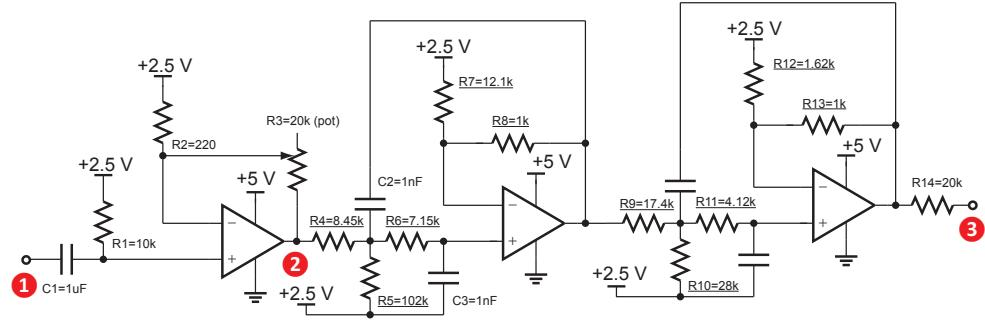

Figure 14: Schematic of the active low-pass filter. Underlined resistors values are 1% tolerance.
Fig. 14 shows the schematic of the active LPF circuit. The filter has a cut-off frequency of **15 kHz** and was designed with the TI WEBENCH filter design tool.
1. Identify the gain stage (between point 1 and point 2 Fig. 14). What is the expression of its gain? Notice that the +2.5 V supply does not affect this result, rather it simply sets the bias of the overall amplifier for maximum output swing because a single 5 V supply (battery) is used vs a dual-rail (both positive and negative) supply.
1. Identify the active LPF portion of the circuit (between point 2 and point 3 in Fig. 14). The overall filter consists of 2 low pass filters. What is the order of the overall filter and how is it determined from the schematic?
3. To measure the filter response only, input a 3 Vpp signal through a series 1 nF capacitor at point 2 in Fig. 14 and measure the output through R14 (at point 3 in Fig. 14). Tabulate and plot the frequency response from 100 Hz to 150 kHz. What is the cutoff frequency of the filter?